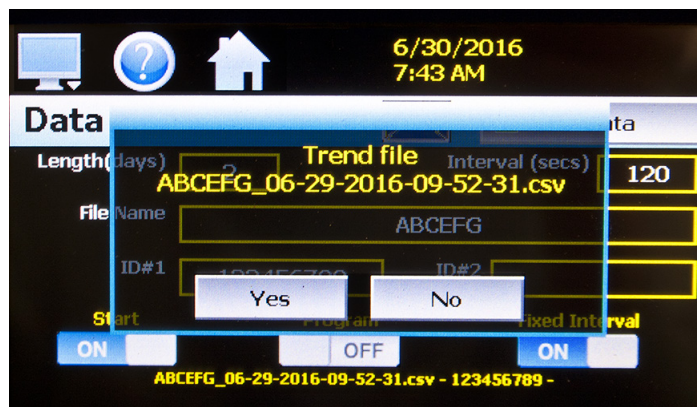

Fig. 74: Trend File
6. Upon selecting a file, a pop-up will ask whether to trend that file (Fig. 74). Select YES.